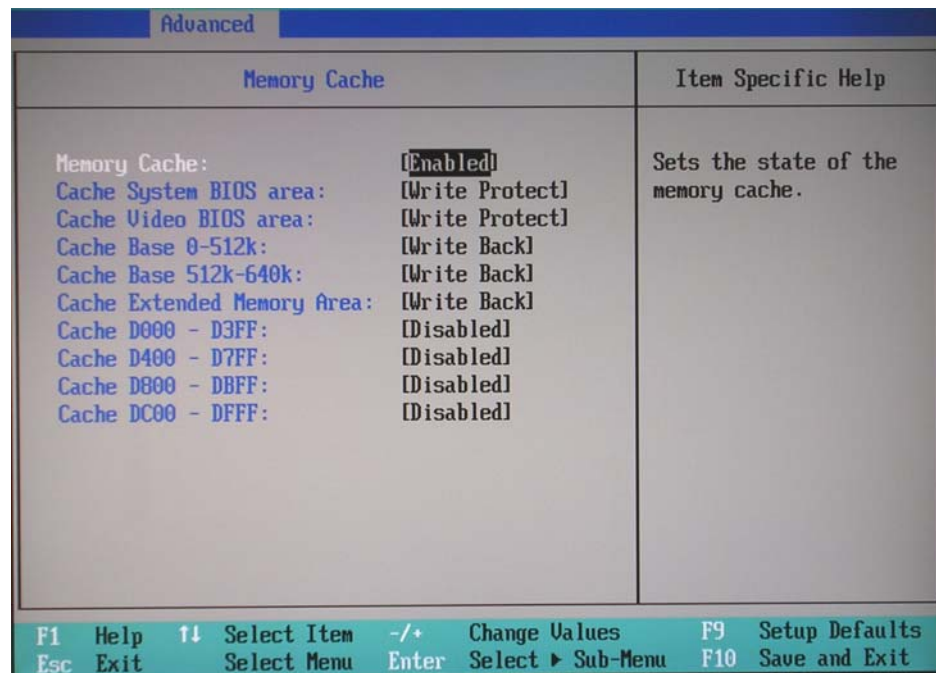

Figure 8-59 BIOS Advanced Memory Cache Parameters
- 9.) Set the parameters in the **Memory Cache** screen as shown above in Figure 8-59.